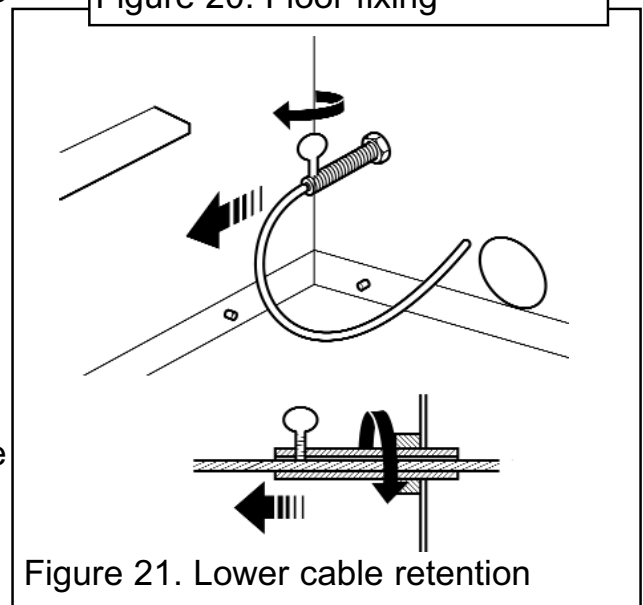

Figure 21. Lower cable retention
11. Pull each cable taut. Push the cable retainers hard up against the back panel. The end of the cable adjuster will pass into the hole. Tighten the screws in the retainers so that they clamp the cables in position. Apply tension to the cables by turning the hexagonal adjusters by hand (See figure 21).